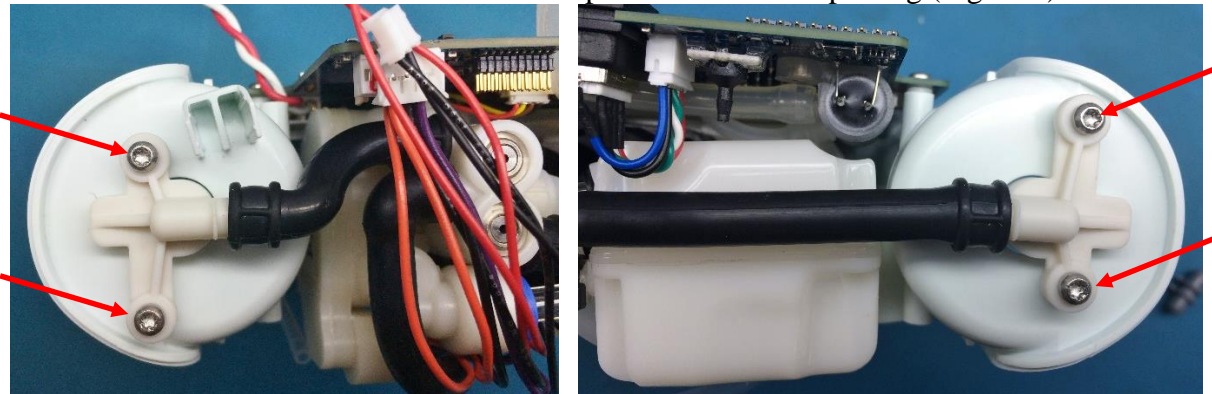

Figure 5: Column Receptacle Screws
4. Remove the two screws from the receptacle that needs replacing (Figure 5).
2. Reinstall the two screws on the column receptacle (Figure 5). Torque to 3 in-lbs.